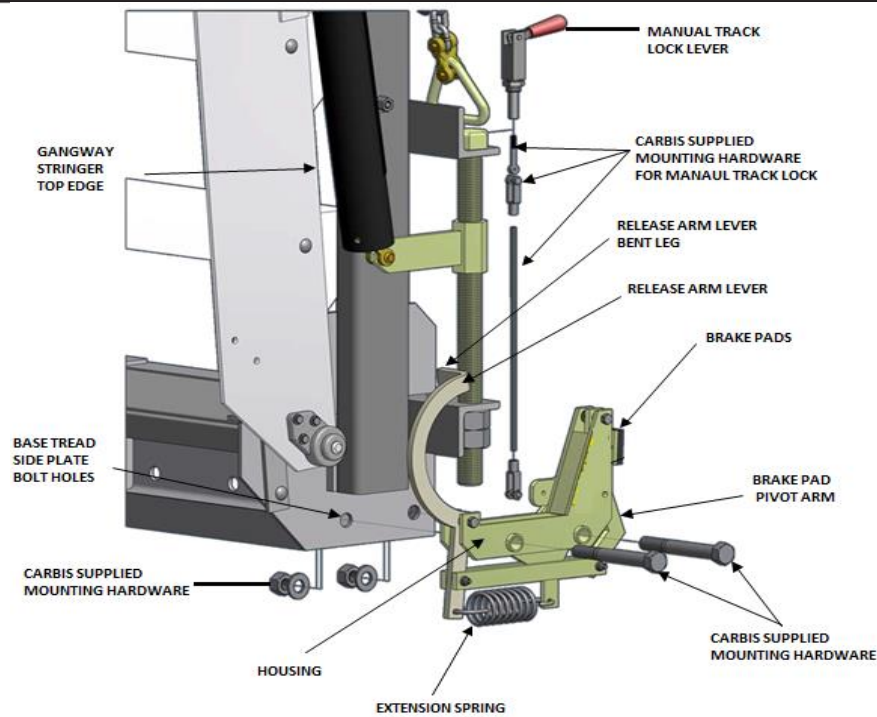

FIGURE 7-5 TCG-S910.1 RACK LOCK MECHANISM
- ii) Using **FIGURE 7-5** below as a guide, install or replace the TCG-S910.1 Track Lock Mechanism per the following steps:
- 9) Install the manual track lock lever and Carbis-supplied mounting hardware as shown in **FIGURE 7-5** below.